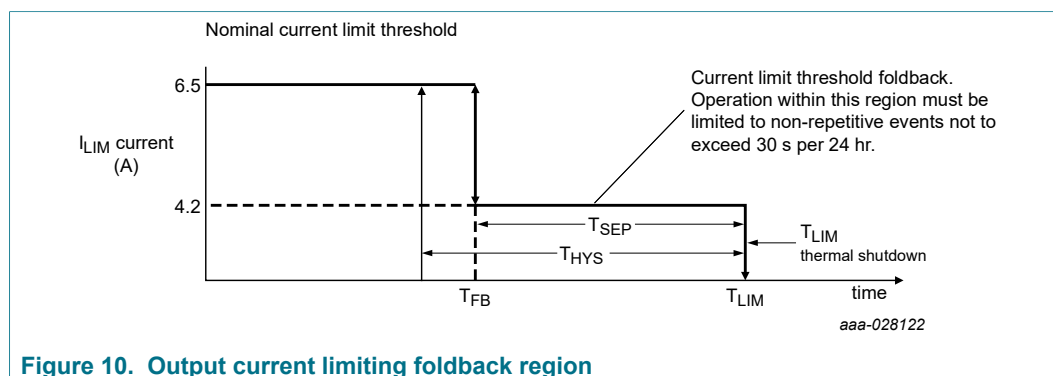

Figure 10. Output current limiting foldback region
- [9] Load currents ramping up to the current regulation threshold become limited at the I_{LIM} value (see Figure 8). The short-circuit currents possess a di/dt that ramps up to the I_{SCH} or I_{SCL} threshold during the I_{LIM} blanking time, registering as a short-circuit event detection and causing the shutdown circuitry to force the output into an immediate 3-state latch-off (see Figure 9). Operation in current limit mode may cause junction temperatures to rise. Junction temperatures above $\sim 160^\circ\text{C}$ causes the output current limit threshold to "foldback", or decrease, until $\sim 175^\circ\text{C}$ is reached, after which the T_{LIM} thermal latch-off occurs. Permissible operation within this foldback region is limited to non-repetitive transient events of duration not to exceed 30 seconds (see Figure 10).